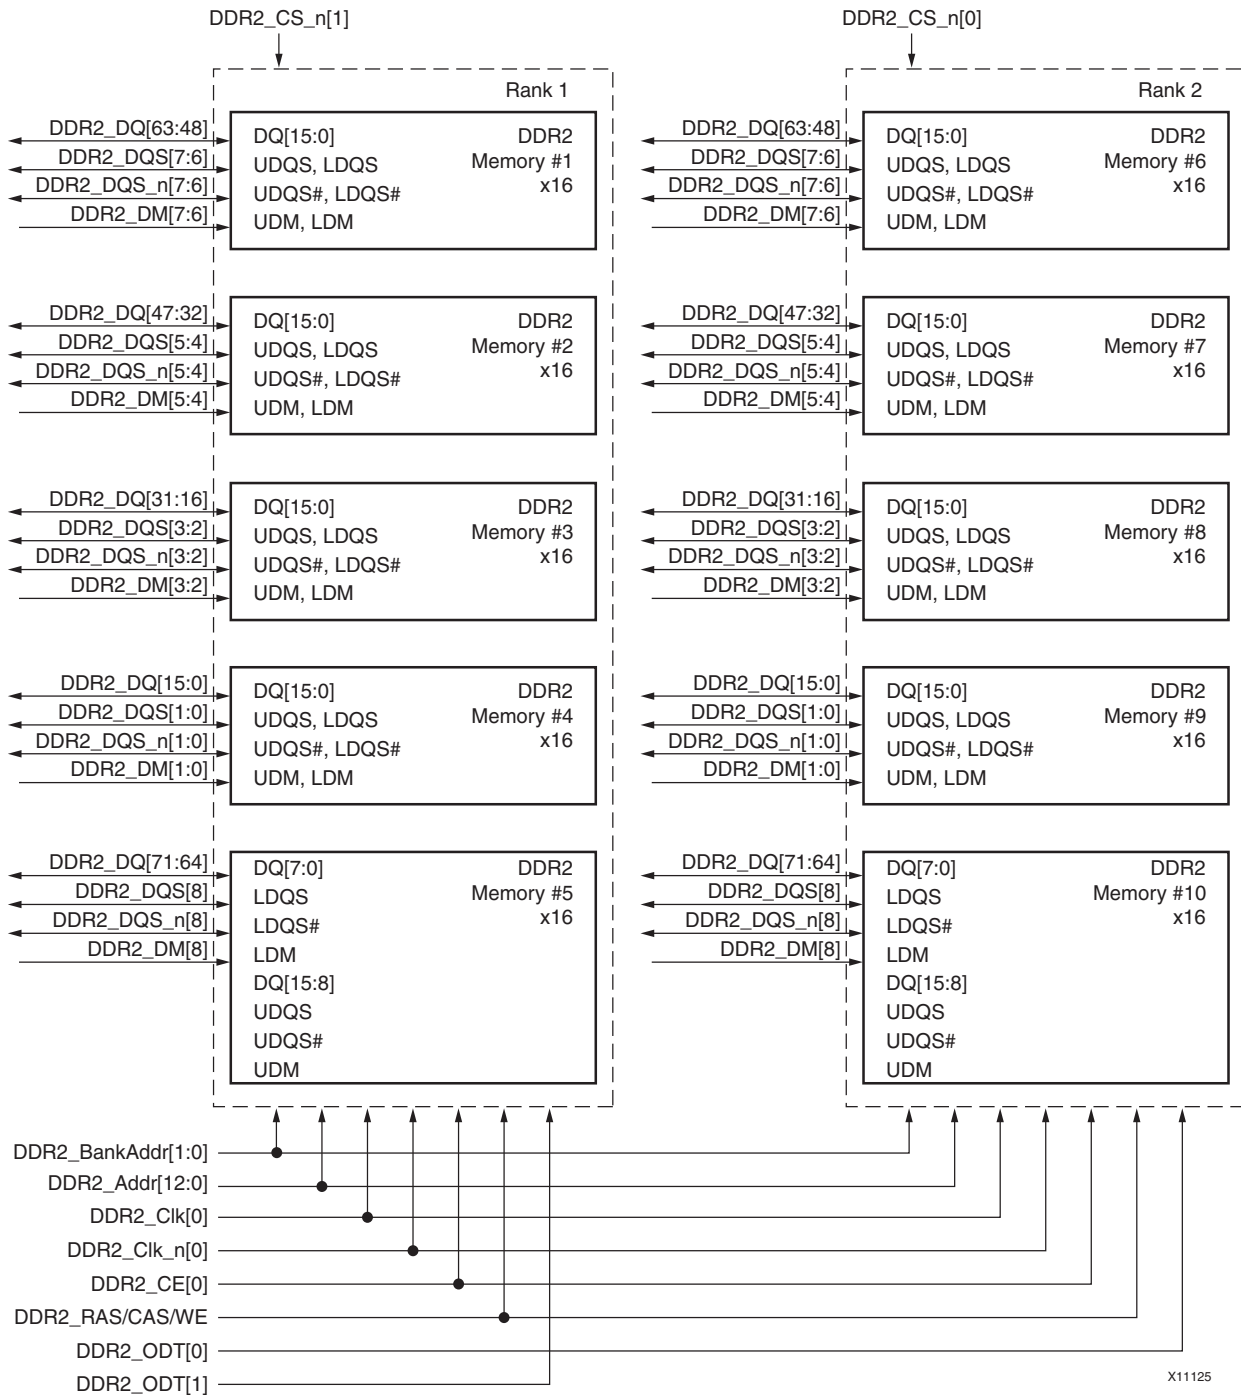

Figure 9: Example DDR2 Memory Connections
The example in Figure 9, page 96 has the following specified parameters:
- Within a particular rank, the signals DDR2_CS_n and DDR2_ODT are connected to each memory in the rank. Some memory manufactures have specific recommendations for how these signals should be connected. For example, when using a dual rank DIMM, the recommendation might be to assert DDR2_ODT on the same rank that DDR2_CS_n is asserted (as shown in Figure 9, page 96). Other recommendations might be to assert DDR2_ODT on to opposite rank that the DDR2_CS_n is asserted, which can be achieved by swapping DDR2_ODT[0] and DDR2_ODT[1].